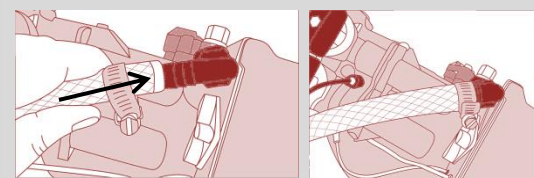

Fig 4
- Attach the drain hose (15 ft included) to the drain fitting and secure it with a hose clamp (**Fig 4**) (included).